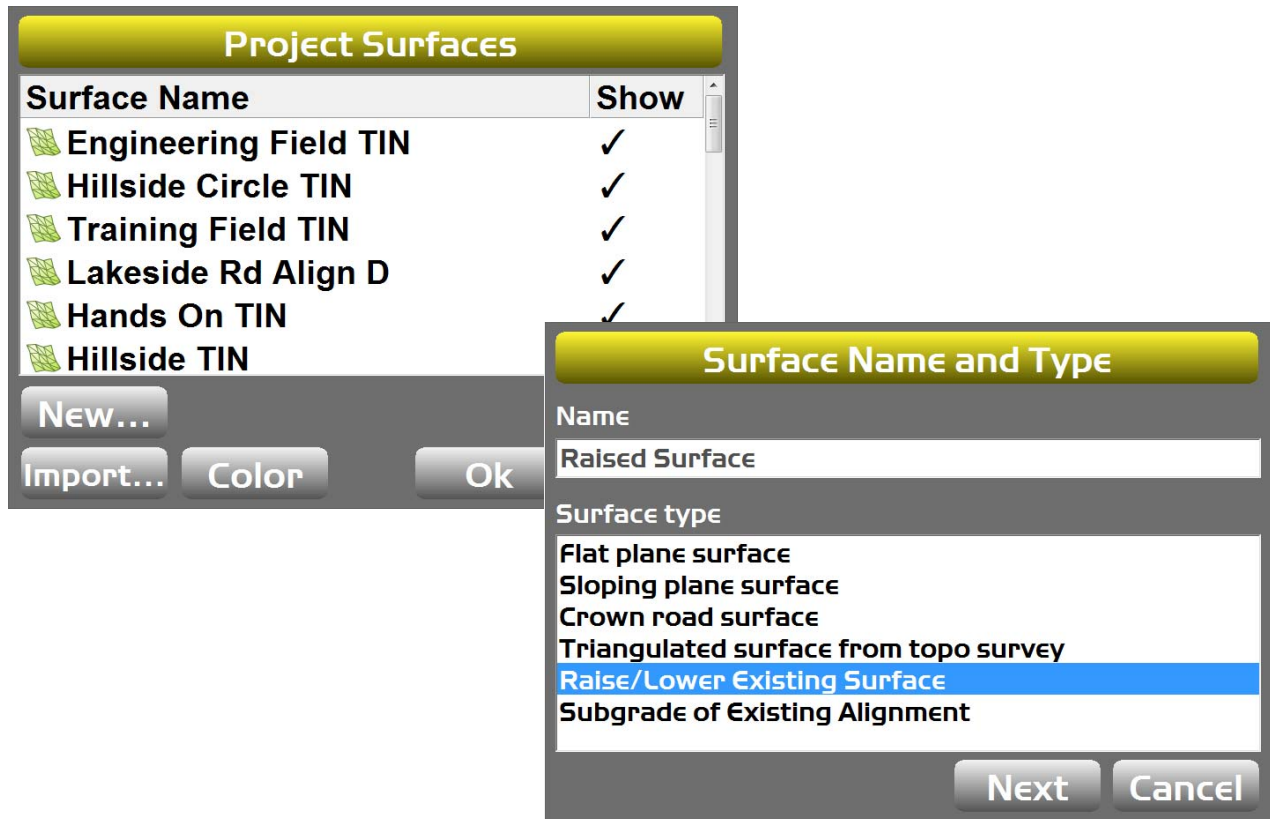

Figure 41: Project Surfaces Screen – Raise/Lower an Existing Surface
- From the **Surface Name and Type** screen, enter a name and select **Raise/Lower Existing Surface** (Figure 41).